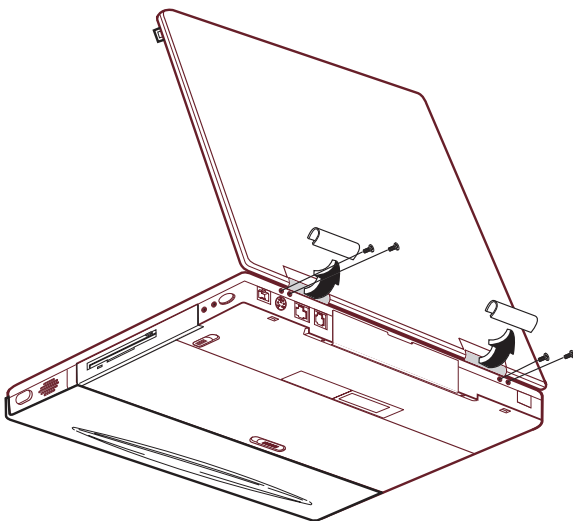

Figure 5-9. Removing Hinge Covers and Screws
6. Close the LCD Display and remove the two hinge covers (Figure 5-9). To remove the hinge covers:
7. Remove the four flat-head hinge screws (Figure 5-9).